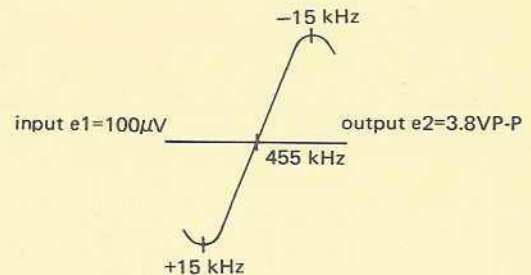

FIGURE 8. IF DISCRIMINATOR CURVE
Step 3: Adjust T4 and T5 for maximum output and adjust T6 and T7 so that the 455 kHz marker is in the center of the discriminator curve and for best linearity as shown in Figure 8.